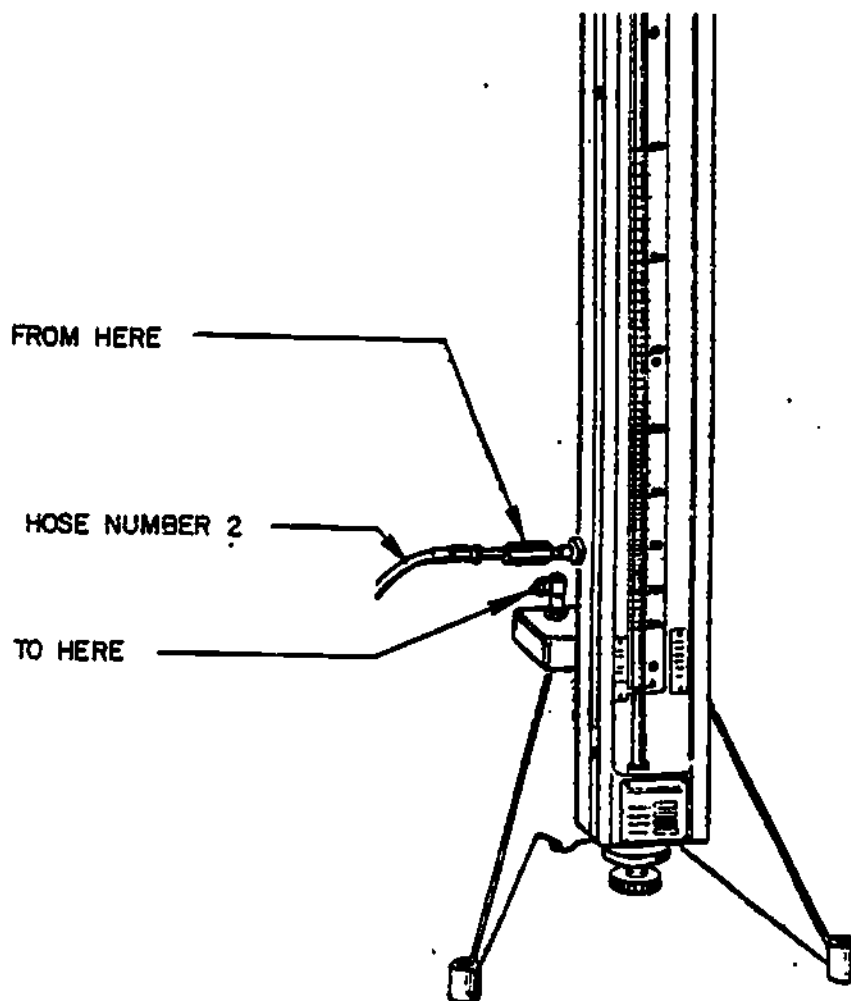

Figure 9.
k. Remove hose number two from the upper fitting of the mercury manometer and secure it to the lower fitting, see figure 9. Be sure that the rubber "O" ring is in place and in good condition before making the connection.